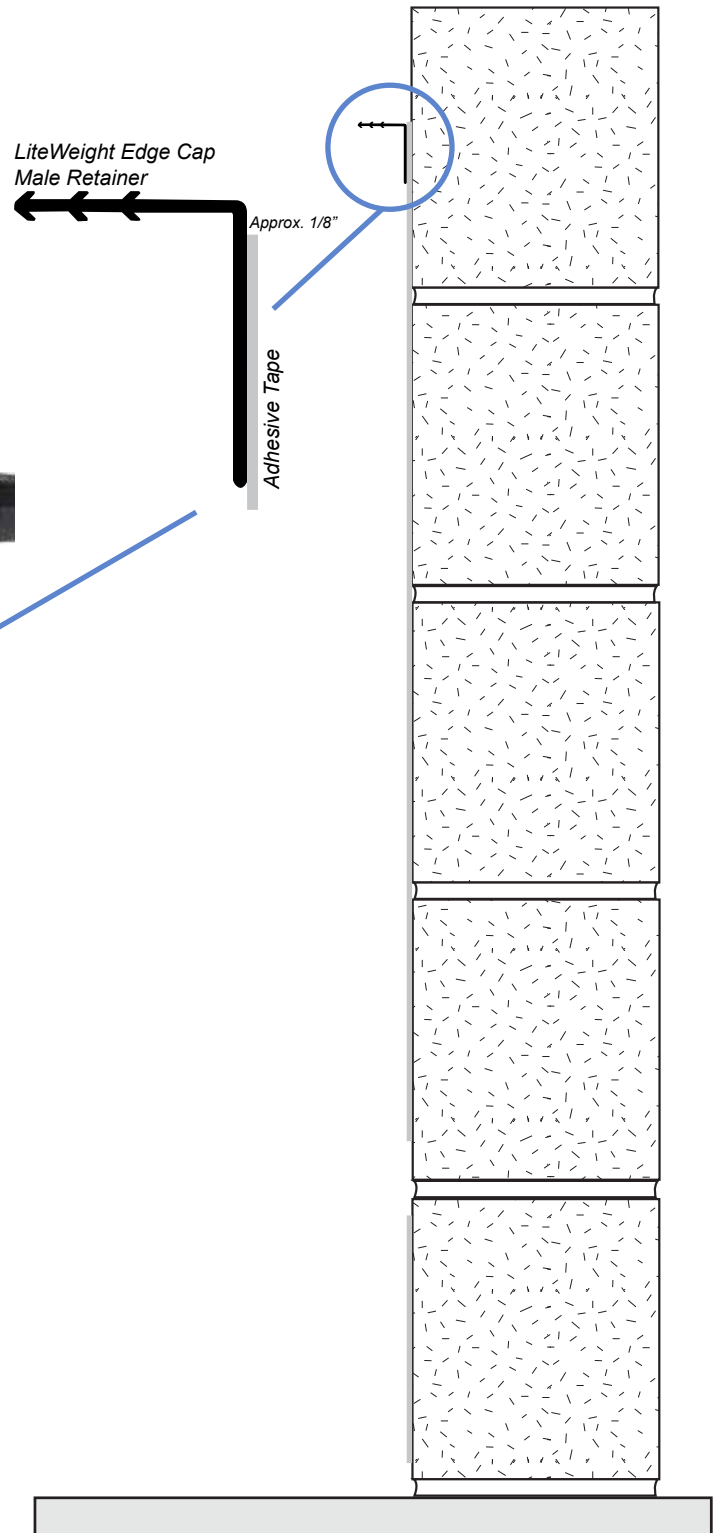

FIG. 1
- If your wall padding is not starting in a CORNER of the room, you will need to also run the Male Retainer Vertical along the outside edge of your wall padding. See Fig. 1 below.